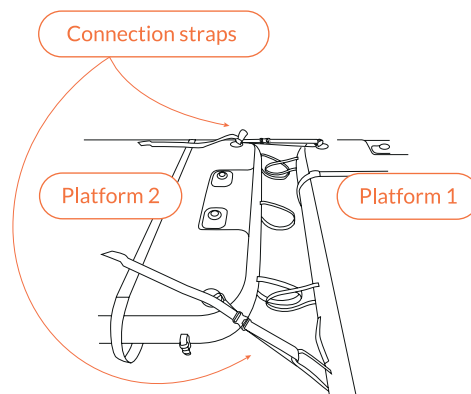

Fig 96 – Feed connection straps through D-rings of Platform 2
3. From a kneeling position feed the two connection straps provided through the D-rings of Platform 2, either side of the desired Air Toggle connection. (Fig 96).